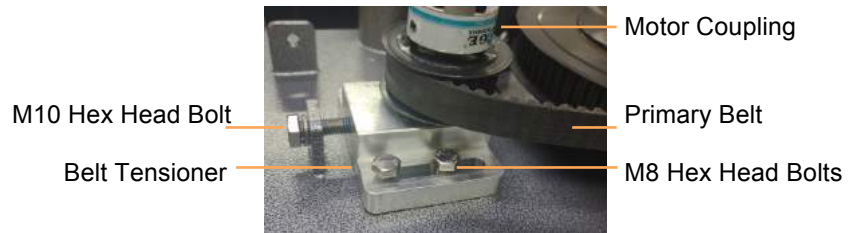

Fig 8
7. Loosen the four M8 hex head bolts and the M10 hex head bolt on the belt tensioner (Fig 8) and slide forward to relieve tension.